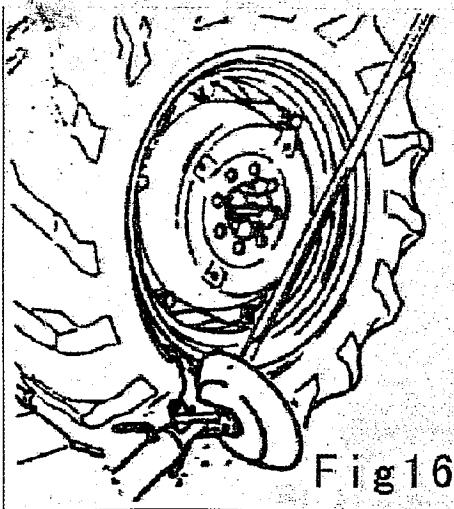

Fig 16
- (1) Set the tool holder (9) to its non-working position, move it to the outside plane of the wheel and rehook it in this working position.
- (2) Rotate the spindle, and at the same time move the peak tool forward inserting between the rim and the bead until it is anchored to the tool.
- (3) Move the rim 4-5mm, from tool so as to prevent the bead from unhooking from tool.
- (4) Move the peak tool outwards until it to the edge of the bead.
- (5) Insert lever between rim and bead at the right of the tool. (fig. 16)
- (6) Press down the lever and keeping it pressed, lower the wheel until the edge of the rim sets itself at about 5mm from peak tool.
- (7) Turn the wheel counterclockwise until one side of bead completely off.
- (8) Move the tool holder to the non-working position, lower the spindle until the tyre onto the plate